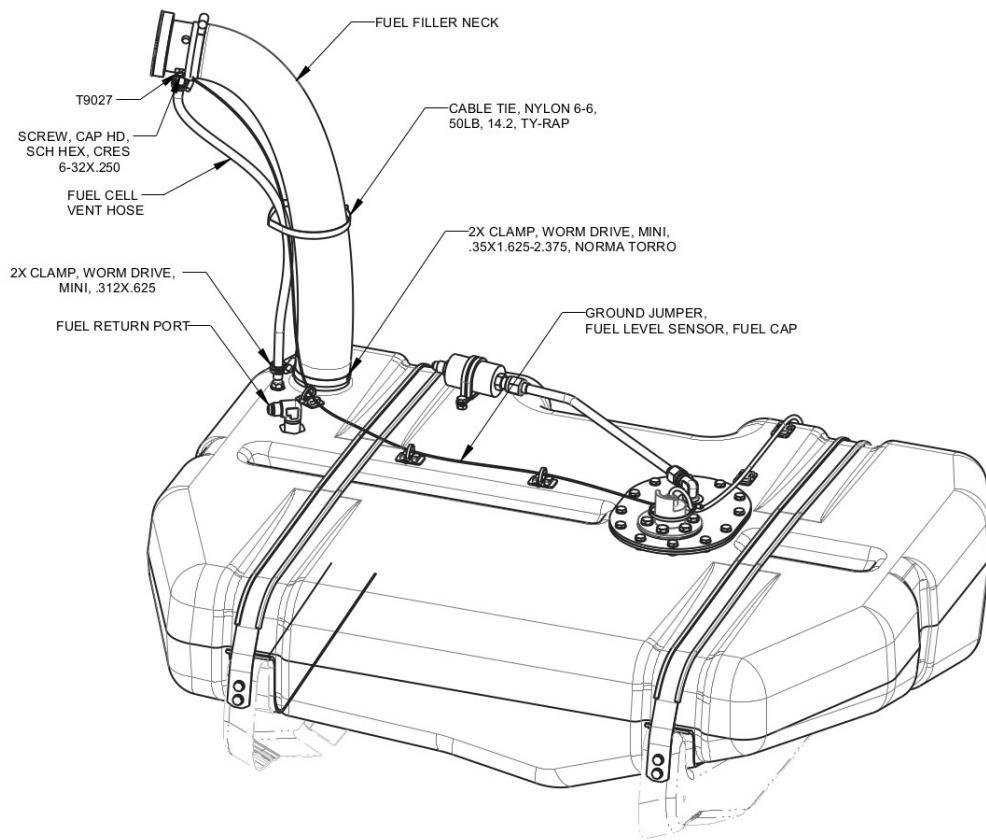

FIGURE 11-8
8. Install the bottom end of the filler neck onto the fuel tank opening flange so that there is a $.2" \pm .1"$ gap between the bottom face of the filler neck and the top face of the fuel tank. Attach the top end of the filler neck onto the fuel cap adapter. See Figure 11-8.
9. Secure both ends of the fuel filler neck using worm drive clamps. See Figure 11-8. Position the bottom hose clamp so that there is a $.4" \pm .1"$ gap between the bottom edge of the hose clamp and the top face of the fuel tank.
11. Connect fuel cell vent hose to hose barb in fuel cap adapter using the mini worm drive clamp. See Figure 11-8. Torque to 10-13 in-lb.
12. Connect fuel return line to the elbow fuel return port in the tank and torque to 110-130 in-lb with a 11/16 wrench. See Figure 11-8.
14. Secure T9027 ring terminal from ground wire on fuel tank subassembly to the filler cap adapter using #6-32 cap screw. Torque screw to 9 in-lb. See Figure 11-8.
15. Secure fuel filler neck, ground wire, and fuel vent hose with CABLE TIE, NYLON 6-6, 50 LB. See Figure 11-8.